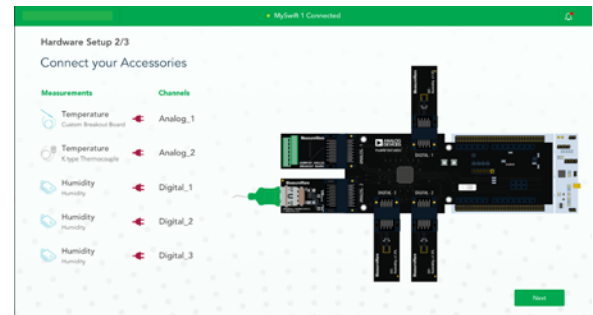

Figure 9. Sensor Board Connection
4. An on screen image shows the correct ports to connect the sensor boards to, as defined in the configuration file (see Figure 9). After the boards are connected correctly, click **Proceed**.
When the design is loaded, the configuration diagram in Figure 9 displays showing which sensor boards are required and which ports these sensor boards must be connected to. The software confirms if the sensor boards are connected correctly, and if so, the user is prompted to continue to the measurement dashboard.